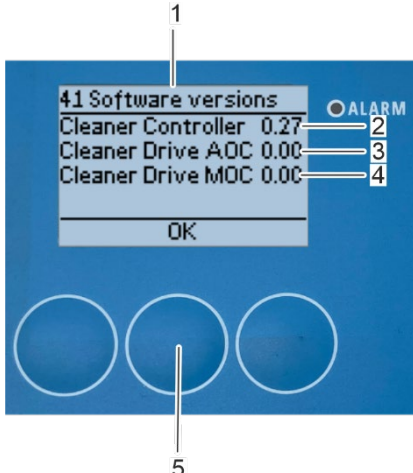
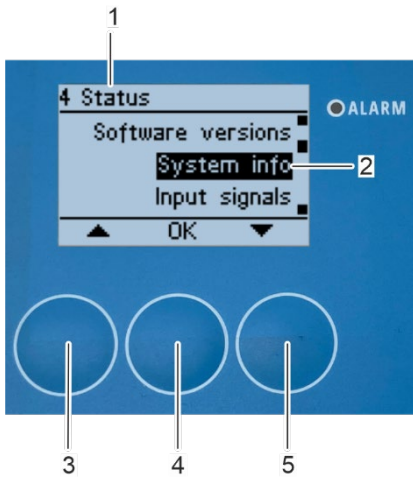

Fig. 173: Submenu "Software versions"
Fig. 174: Open submenu "System info"
⇒ The "41 Software versions" submenu appears on the display (Fig. 173/1) showing the actual software versions of the rotor cleaner control (Fig. 173/2) and the rotor cleaner drive (Fig. 173/3 and Fig. 173/4).
3. Press [OK] (Fig. 173/5) to return to the "4 Status" submenu (Fig. 174/1).
- ⇒ The "4 Status" submenu appears on the display (Fig. 174/1).
1. Select the "System info" submenu (Fig. 174/2) with the arrow keys [up] (Fig. 174/3) and [down] (Fig. 174/5).
2. Confirm the selection with [OK] (Fig. 174/4).